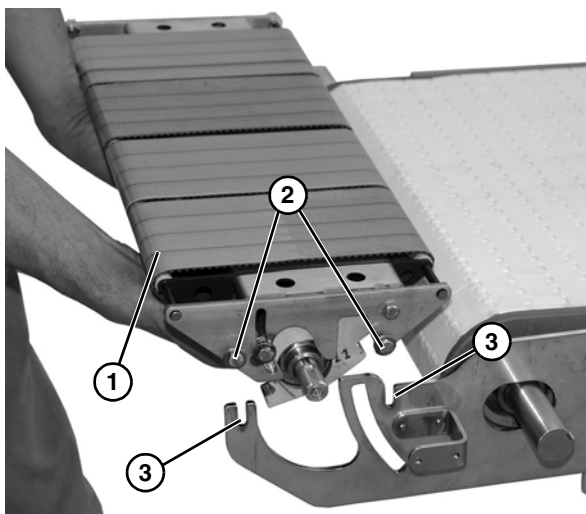

Figure 10
7. Install power transfer belt assembly (**Figure 10, item 1**) with flange bolts (**Figure 10, item 2**) installed onto slots (**Figure 10, item 3**) on each side bracket.